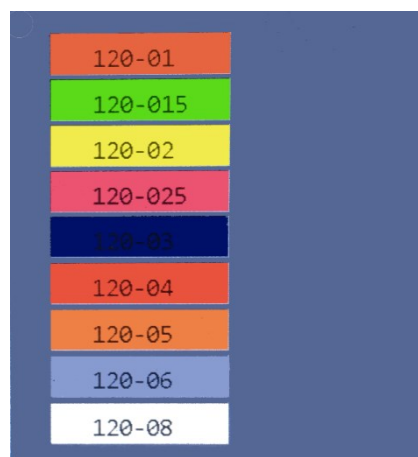

Figure 26
- Select the nozzle by pressing one of the colored fields with nozzle codes (Figure 26).